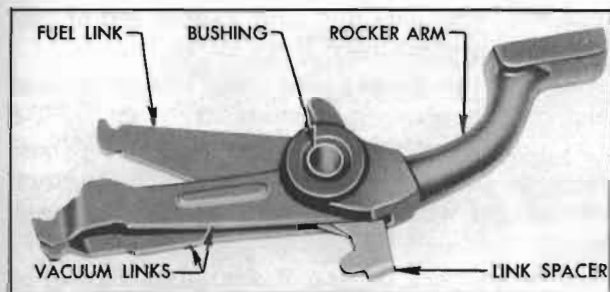

Figure 3-16—Rocker Arm Links, Spacer, and Bushing Assembled
1. Insert drilled end of fuel link (short) into link spacer. Place one vacuum link (long) on each side of spacer so that the hooked ends of long links come together. The hooked ends of all links and the projection on link spacer must point as shown in figure 3-16.
2. Line up holes in links and spacer, slide parts between the jaws of rocker arm with flat surface of rocker arm pad facing same direction as link hooks, then install the pin bushing. See figure 3-16.